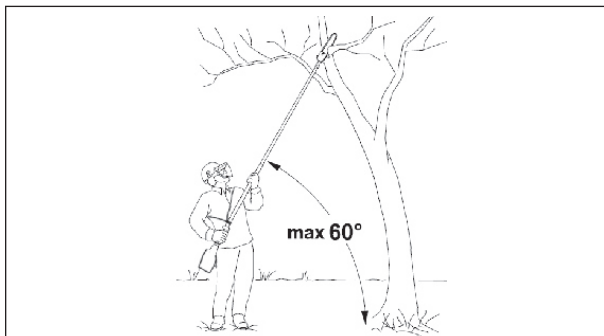

Fig. 18b
- c). Always hold the product at an angle of not more than 60° from the horizontal level. Otherwise safe operation is not possible. (See Fig. 18b)